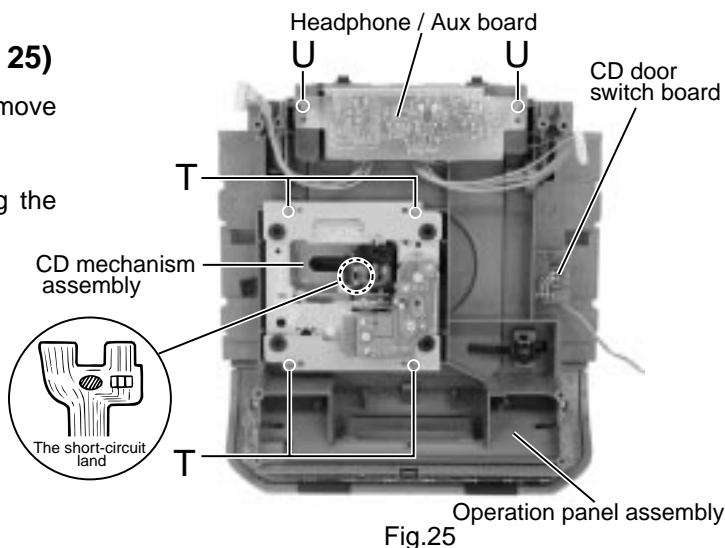

Fig.25
- **Fig.25 shows more detail about the short-circuit land.**
(See Fig.25)